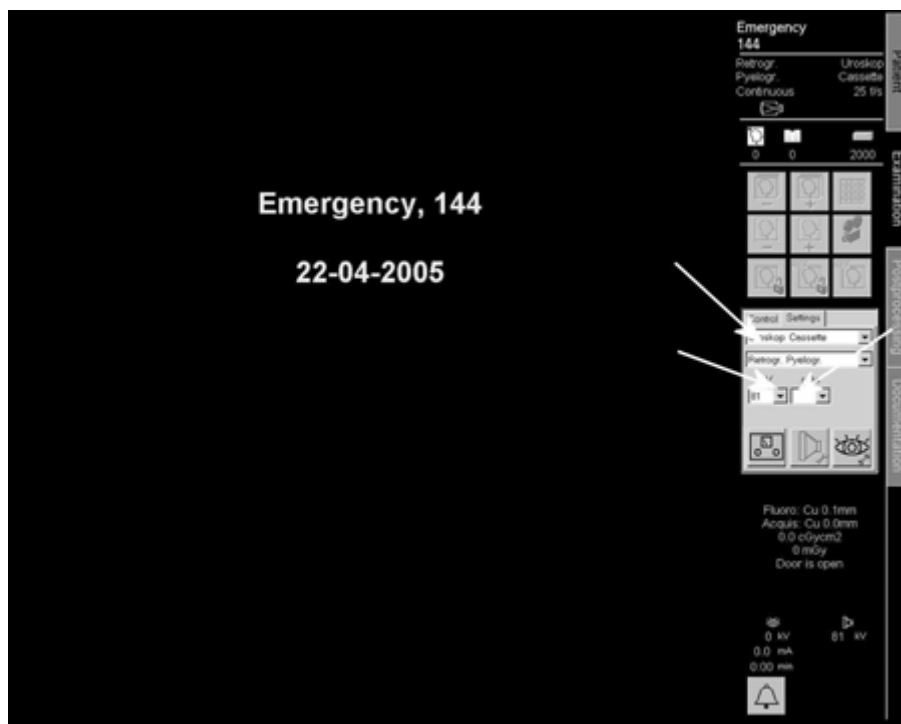

Fig. 10:
- Select the **Examination** task card and select **Uroskop Cassette, 70 kV** and **320 mAs** in the list box of the **Settings** sub task card (Fig. 10 / p. 20).